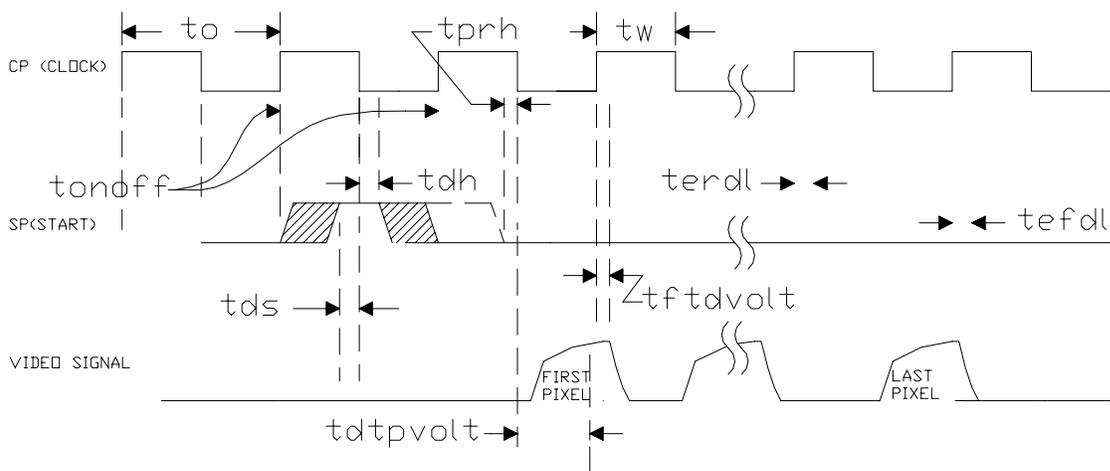

Figure 3: Timing Diagram
This table defines the symbols used in the timing diagram (Figure 3). It is for a single video section, however it applies to all eight video sections. Accordingly, the system-timing diagram is a composition of this timing diagram repeated eight times, with all waveforms in parallel, so electrically the system produces pixels from all eight video sections simultaneously.
- (1) This applies to the whole chart. All of the symbol definitions in Table 7-2 are used in Figure 3. For the complete system, there are only two clocks, CP and SP and their logic levels are compatible with CMOS 74HCXX series logic devices.
- (2) See the notes on clock periods (the inverse of freq) and their duty cycles under Table 5-1 Notes 3 and 4.
- (3) See AMIS-720639 data sheet Page 6, Table 6A, Note 6.
- (4) This is the recommended method for SP generation because the shift register loads only on the falling edge.